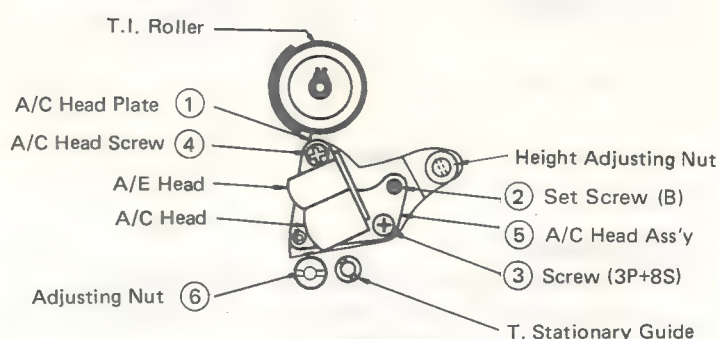
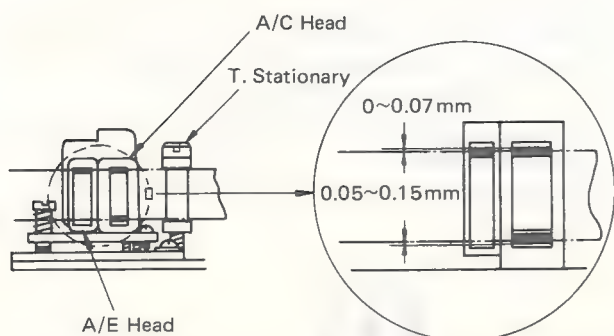

Figure 23
Figure 25
After replacement, be sure to adjust tape travel. During replacement, never touch the head surface by hand (where indicated with in Figure 23).
3. Check that the A/C head has the height and tilt shown in Figure 25 with respect to the tape.
* If there is any abnormality in the travel mode, carry out the following adjustments with reference to Figure 23 and Figure 25.
4. If adjustment is needed, adjust by means of screw ②. Turn screw ② little by little.
5. The height of the A/C head should be positioned with respect to the tape as shown in Figure 25.
6. Adjust the height, tilt, and azimuth of the A/C Head as shown in Figure 25.
7. Set the tracking knobs to the preset position. Adjust the position of the A/C Head so that the envelope is a maximum, with the adjusting nut (6) (See Figure 23).